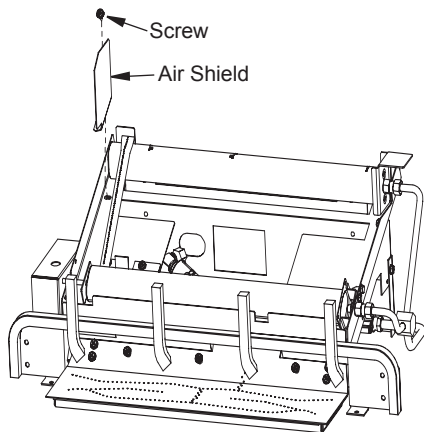

Figure 36 - Removing Air Shield
- Before placing any logs on the chassis you will need to remove the Air Shield located on the left side near the rear burner as shown in Figure 36. The Air Shield is held in place with one screw, remove the Air Shield and place the screw back into the hole in the chassis. Place the Air Shield with you owner's manual and keep.